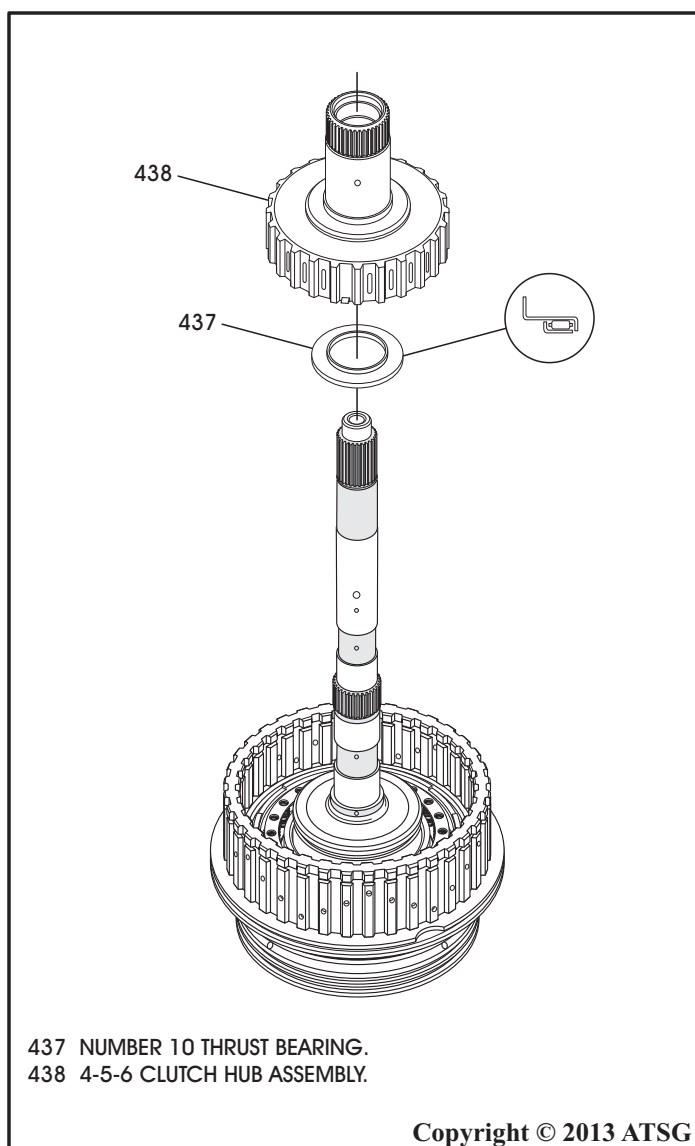

Figure 152
37. Install the number 10 thrust bearing in direction shown in Figure 152 and retain with a small amount of Trans-Jel®.
38. Install the 4-5-6 clutch hub assembly, as shown in Figure 152, using care not to damage the hub bushings as you pass the splined area on input shaft.